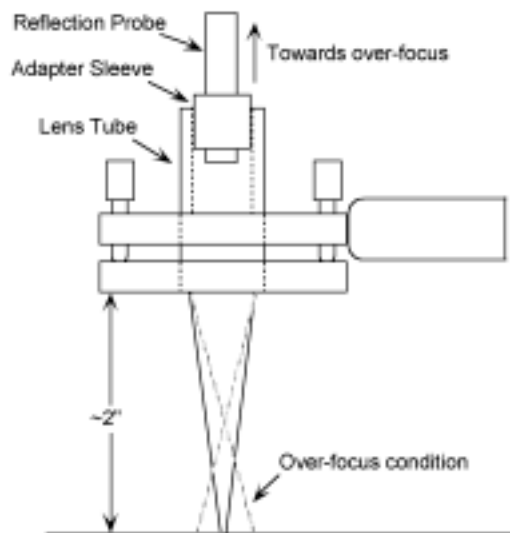

Figure 2.7: Focus Control for LA1-RKM lens assembly.
- f) Optimize the focus to maximize the measured signal by adjusting the reflection probe position in the lens assembly. Focus the light beam on the sample by sliding the reflection probe inside the lens tube. To see the beam, it may be necessary to place a diffuse surface, such as a business card, over the sample. Ideally, the best focus adjustment is when the beam is just under focused. To achieve this, focus the beam on the reflecting sample, and then move the reflection probe slightly down in the lens tube until maximum signal is obtained. Always avoid the over-focus condition (see Figure 2.7). When finished, tighten the socket head set screw that secures the fiber. Once again, if saturation occurs, it may be necessary to reduce the integration time.